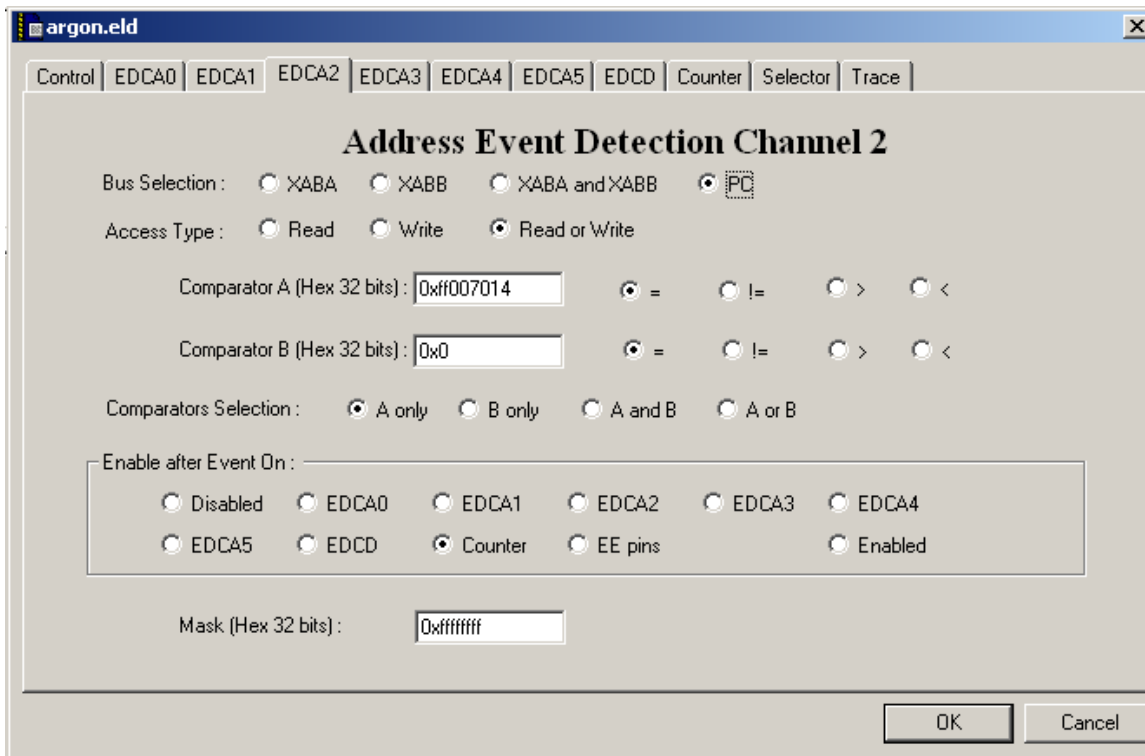

Figure 24: EDCA2 Setup
- i. In the EOnCE configuration menu select the EDCA2 tab (see Figure 24: EDCA2 Setup)